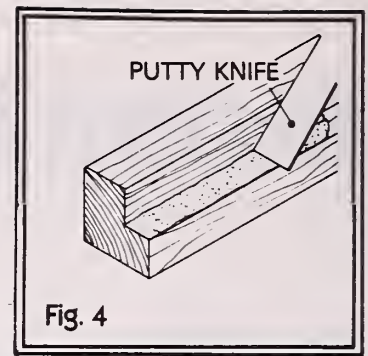

Fig. 4
2. Using the chisel, remove the damaged glass, old putty, and old glazier's points from the frame. Apply a coat of linseed oil to the frame. Using the putty knife, spread a thin layer of putty on all sides of the frame in which the glass is to rest (fig. 4). This "back-puttying" of the glass will assure a tight joint and also cushion the glass.